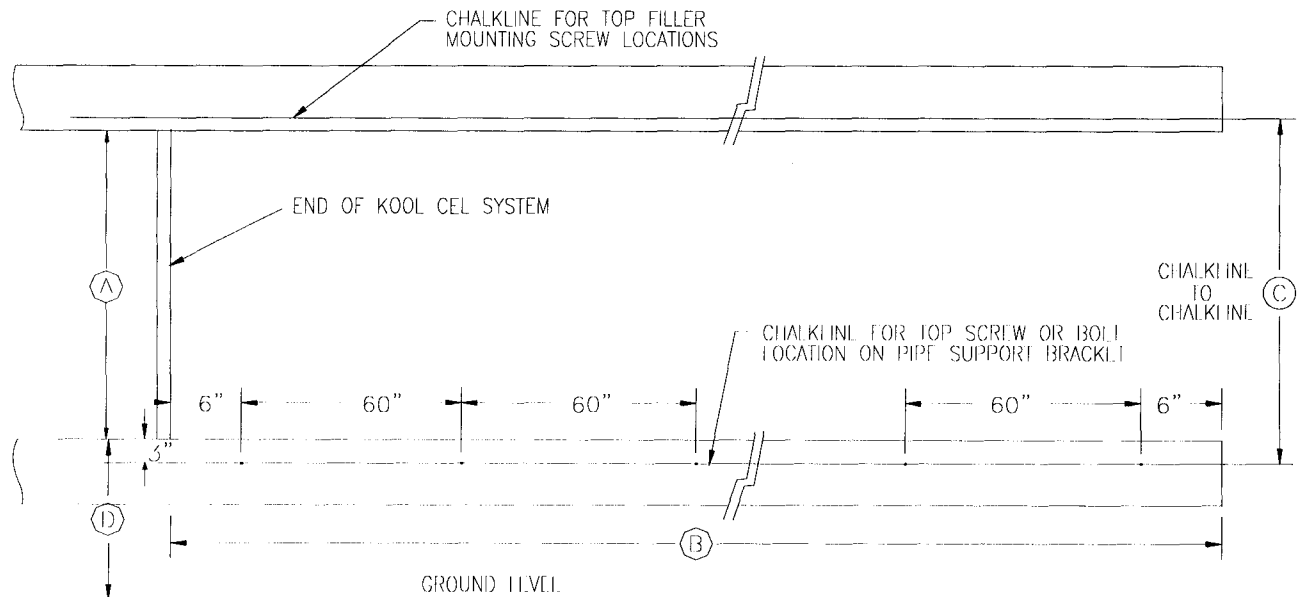
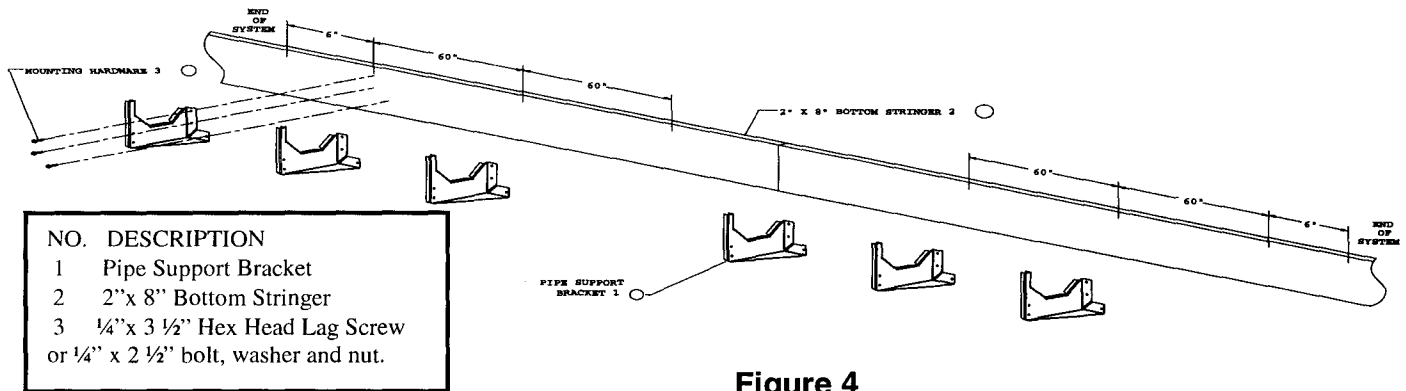
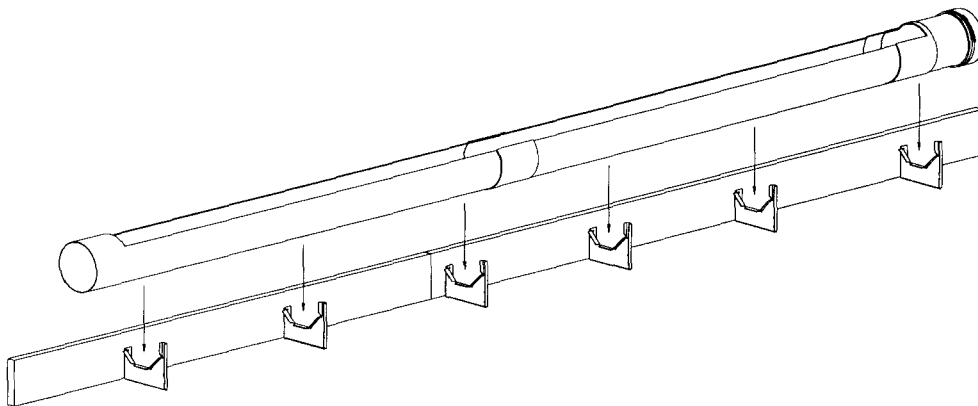
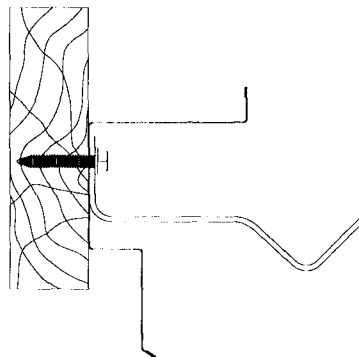

Figure 3
Figure 4
Figure 7
Figure 14
- A) To locate the pipe support bracket position on the bottom stringer for the 8 inch pipe, refer to chalk line shown in Figure 3. The chalk line should be 3" down from the top of the bottom stringer and run its full length. The chalk line will be used to locate the top hole position of the brackets. Hole spacing is shown in Figure 3 and Figure 4.
- B) Locate the box containing the pipe support brackets. Install all pipe support brackets as shown in Figure 4, making sure brackets are vertical. Note: The bracket's top hole should be on the chalk line. Lag screws are shown. They are to be used if going into the 2x8 material at a 4x4 post location. If going into the 2x8 material at a location other than the 4x4 post, use the 1/4" x 2 1/2" bolts, washers and nuts.
- G) Place the entire pipe assembly on the pipe supports as shown in Figure 7. The end of the cut opening in the pipe on the pump end should be 12 inches from the first pipe support as shown in Figure 4.
1. Beginning at the pump end of the system, locate the position of the end of the system (end of system is end of pad support in gutter) and install the top cover support sections and the pipe hangers to the top stringer by lining up the top holes of the top cover support sections with the chalkline (refer to Figure 3) on the top stringer. Attach the hangers and the top cover support sections to the stringers with $\frac{1}{4}$ " x $1 \frac{1}{2}$ " hex head screws as shown in Figure 14.